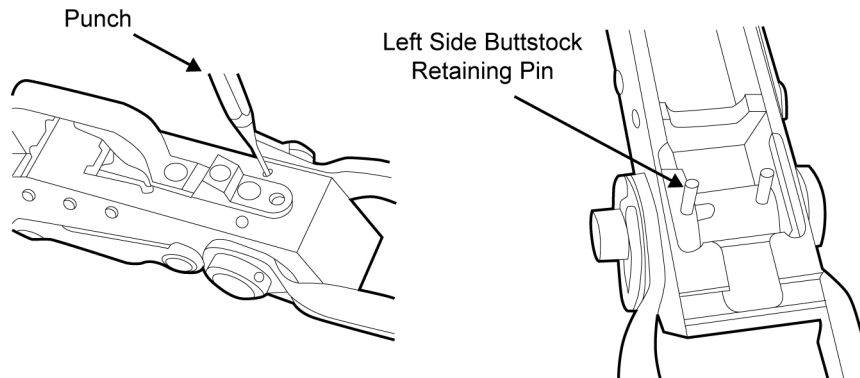

Figure 29. Removing the Left Side Buttstock Retaining Pin.
- b. From the bottom of the receiver, use a punch to push the left side buttstock retaining pin up and out of the top of the buttstock catch. From inside the receiver, remove the left side buttstock retaining pin from the top of the buttstock catch. Needle nose pliers may be necessary. Refer to Figure 29.